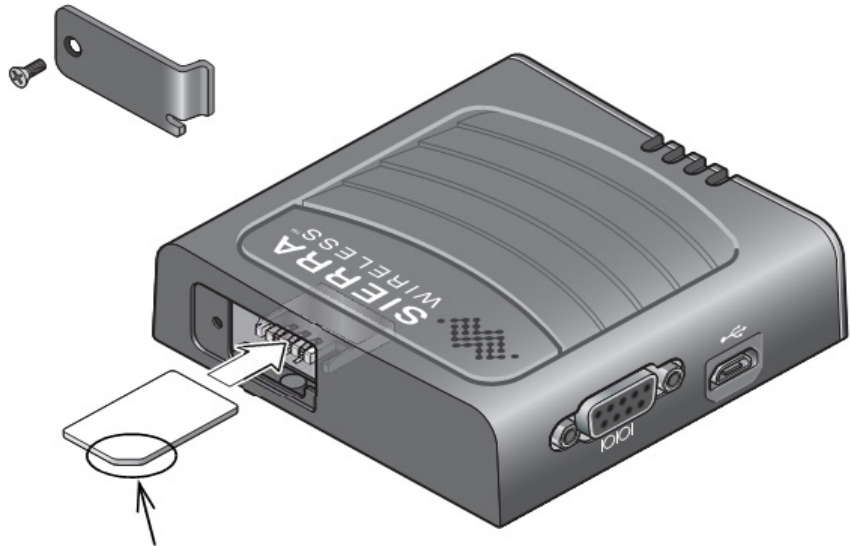

FIGURE 4-1. SIM card installation
2. When viewed from the top, the notched corner of the SIM card faces towards the center of the device as shown in FIGURE 4-1. **Gently** slide the card into the slot in the connector until it stops.